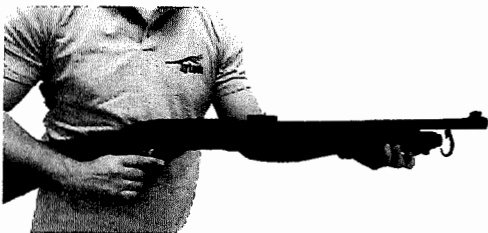

Fig. 28
6. Unscrew the magazine cap by turning it counter-clockwise. (Fig. 28)